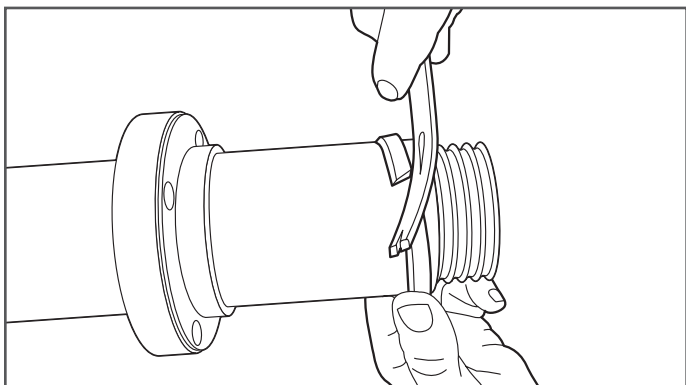

Figure 8-8
8. Using a flat tip screwdriver or flat pry bar, open up jacket lock and remove (Figure 8-8).